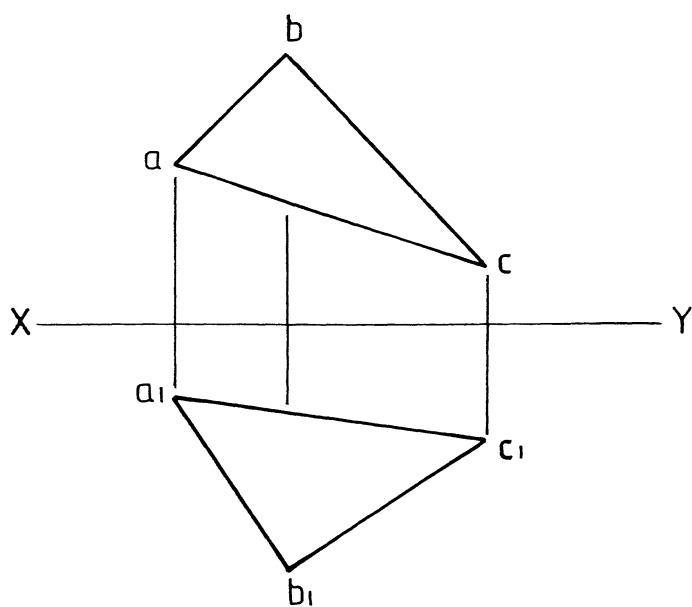

FIG. 1.2
1.2 In FIG 1.2 find the 1.2.1 true angle between plane figure ABC and the HP. 1.2.2 true shape and size of plane figure ABC.	6 6
1.2 In FIG 1.2 bepaal die 1.2.1 ware hoek tussen vlakfiguur ABC en die HV. 1.2.2 ware vorm en grootte van vlakfiguur ABC.	6 6